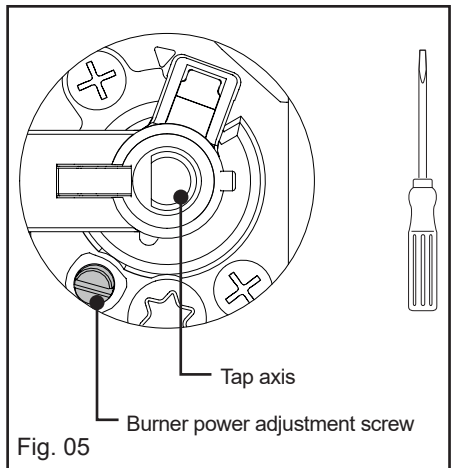

Fig. 05
- With a small flat-head screwdriver, **screw in all the way** the brass (yellow) burner power screws (Fig. 05), **in a clockwise direction**.
- Unscrew the brass (yellow) burner power screws (Fig. 05), using a small flat-head screwdriver, **turn twice counter-clockwise**.